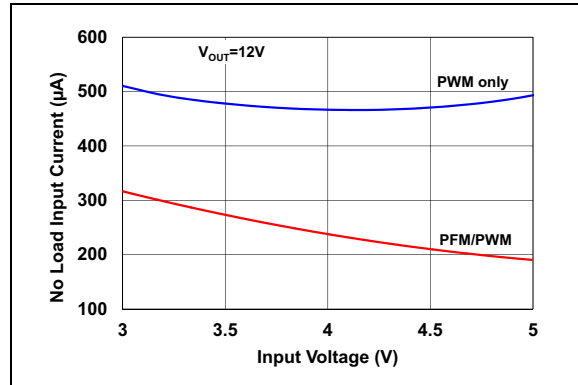

FIGURE 2-8: No Load Input Current, I_{IN0} vs. V_{IN} ($EN = V_{IN}$).
- 2:** I_{IN0} varies with input and output voltage and input capacitor leakage (Figure 2-8). I_{IN0} is measured on the V_{IN} pin when the device is switching (EN = V_{IN}), at no load, with R_{TOP} = 180 kΩ and R_{BOT} = 20 kΩ.
- I_{IN0} varies with input and output voltage and input capacitor leakage (**Figure 2-8**). I_{IN0} is measured on the V_{IN} pin when the device is switching ($EN = V_{IN}$), at no load, with $R_{TOP} = 180\text{ k}\Omega$ and $R_{BOT} = 20\text{ k}\Omega$.